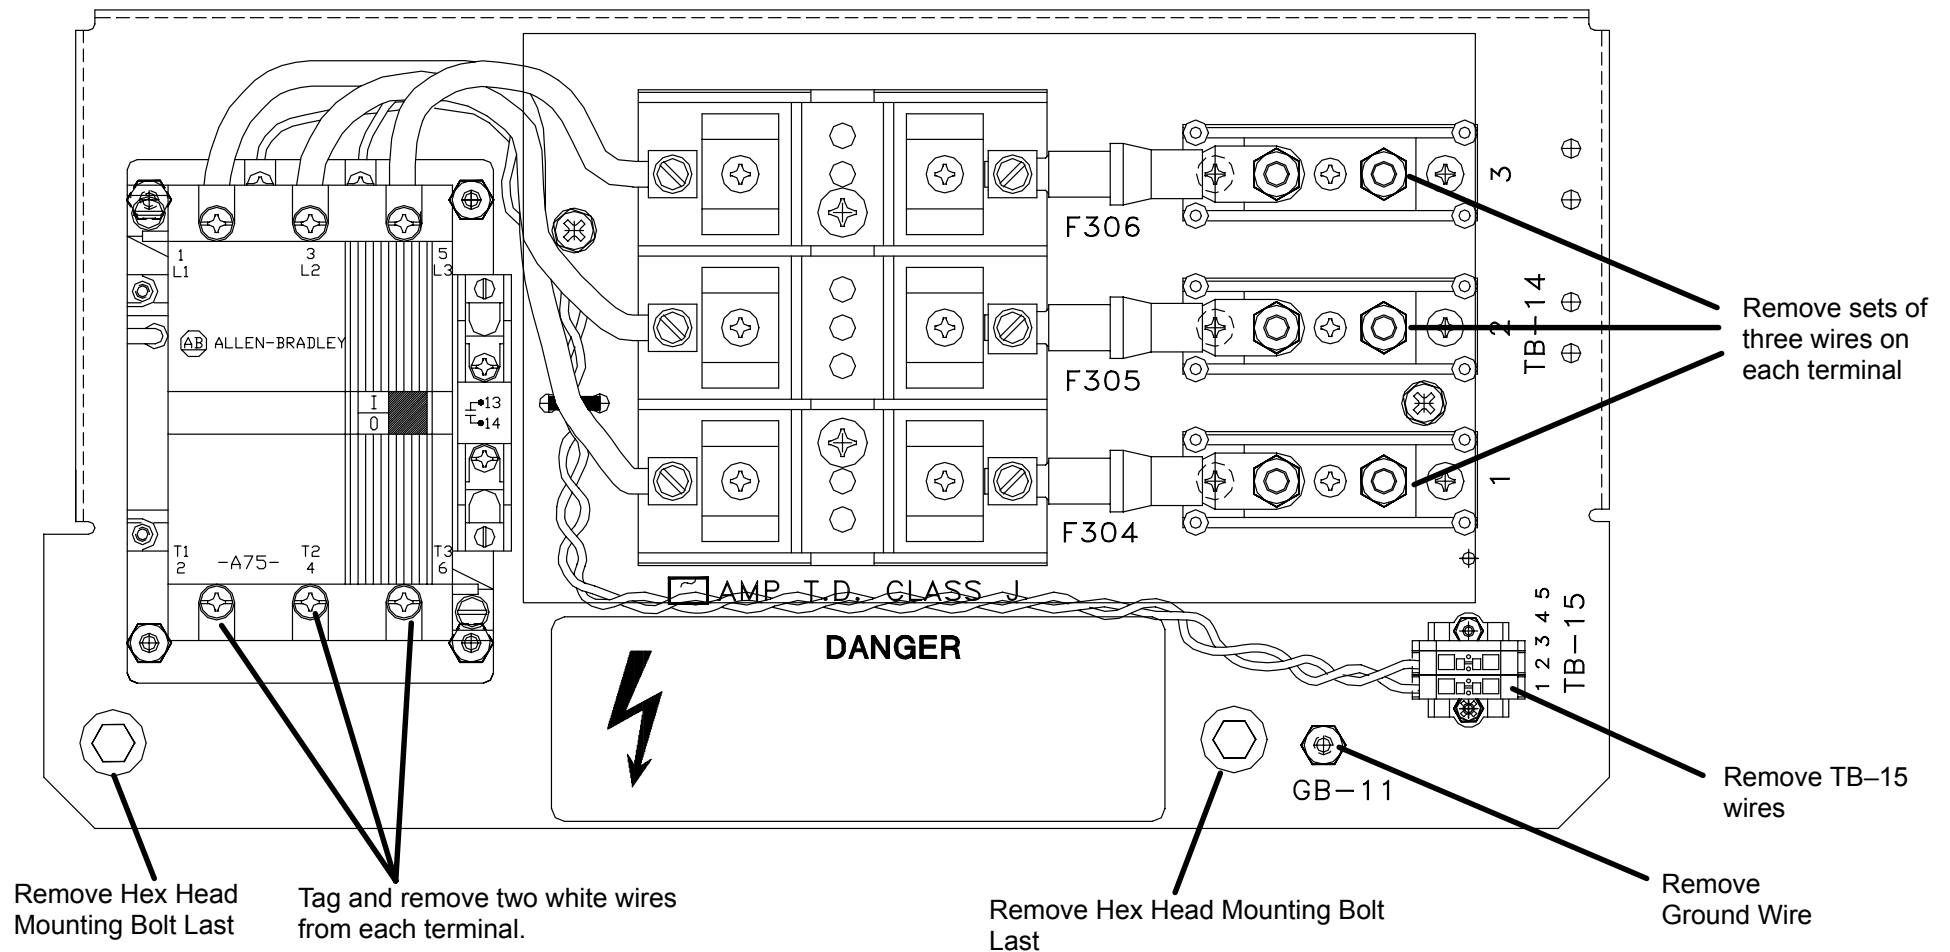

FIGURE 313 Fuse/Contactor Removal
3. Remove the two Philips Head Screws and remove the clear Fuse/Contactor Cover. See Figure 313.
4. Tag and disconnect all Wires/Cables attached to the Fuse/Contactor chassis. Refer to Figure 313.
5. Remove the two hex mounting Bolts and remove the Chassis assembly. Refer to Figure 313.